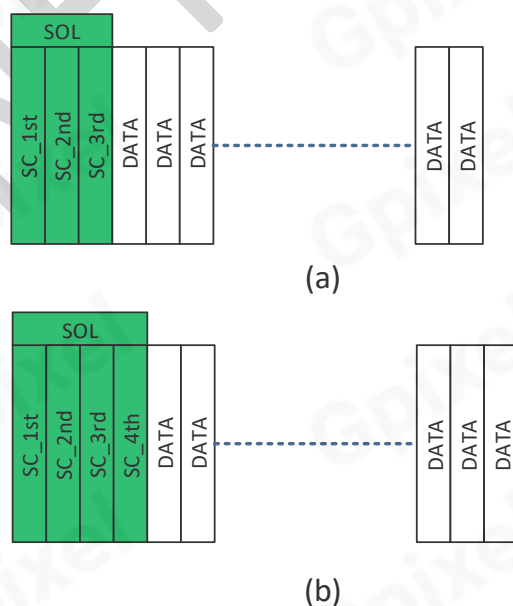

Figure 34 GLT5016BSI image data output
- If no image readout is ongoing, the Training Pattern (TP) is sent out.
- Image data always start after 'Start' synchronization (SYNC) codes. Each of such SYNC code consists of 3/4 words which is shown in Figure 34 (Single band mode: 3words. Dual band mode: 4words).
Figure 34 illustrates the image data output format for GLT5016BSI sensor. TP code is data word based and placed any moment when SYNC code and valid data are not output.
- 1) In single band mode, data output starts with three SYNC code shown in figure(a) in Figure 34, and in dual band mode, data output starts with four SYNC code shown in figure(b) in Figure 34.